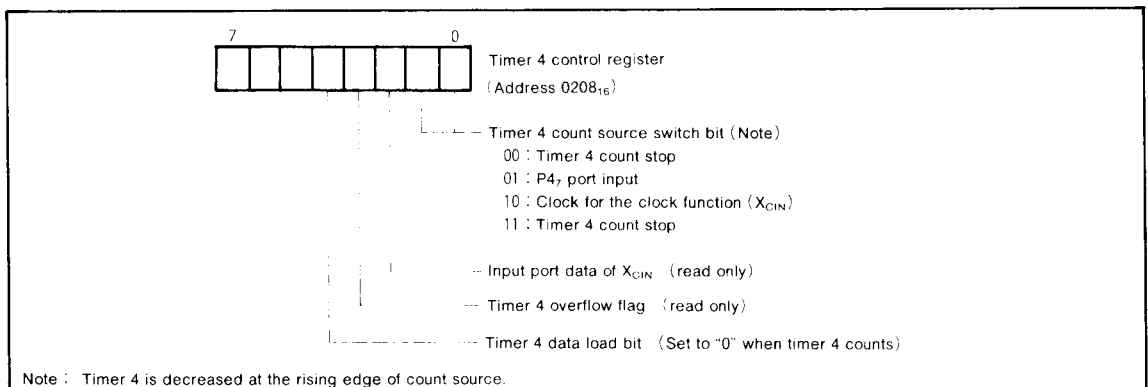

Fig. 8 Structure of timer 4 control register
The count source of timer 4 can be selected by bit 0 and bit 1 of timer 4 control register (address  $0208_{16}$ ). When bit 0 and bit 1 are set to (00) or (11), timer 4 stop counting. The structure of timer 4 control register is shown in Figure 8.